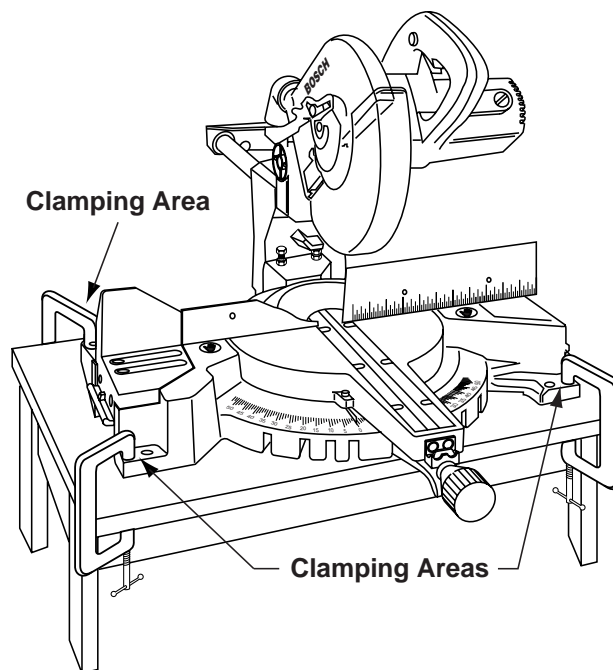

Figure 16. Portable Mounting Using Clamps
- Place two (2) or more “C” clamps on the clamping areas and secure (Figure 16).